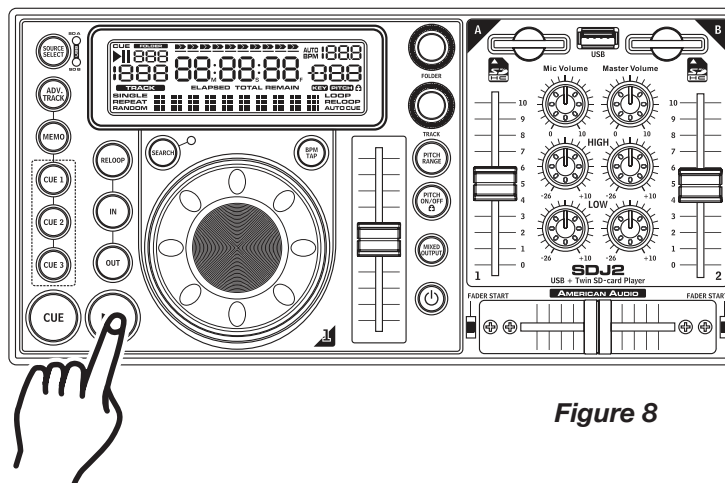
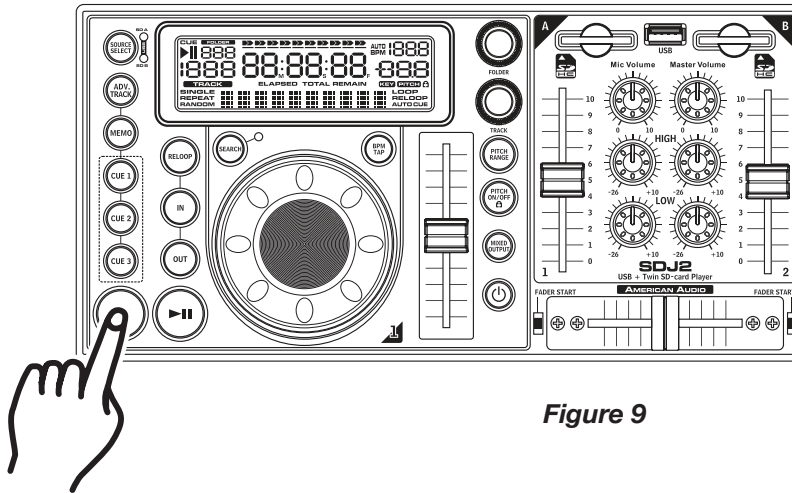
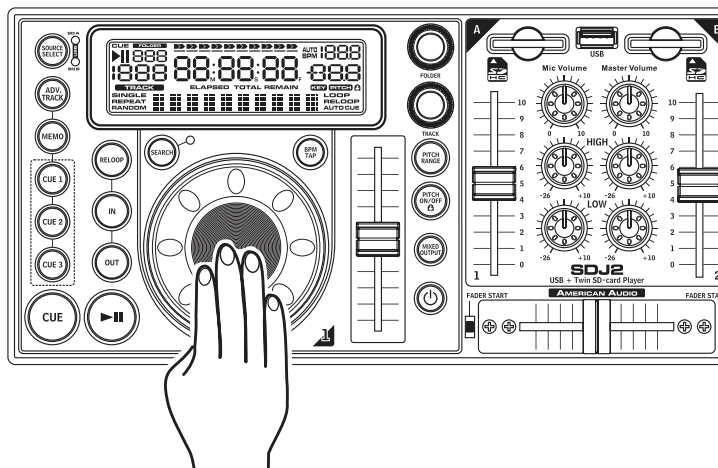

Figure 8
Figure 9
Figure 10
4. STARTING PLAYBACK - Figure 8
5. PAUSING - Figure 9
This feature allows you to scroll through a track frame by frame, allowing you to find and set a starting cue or loop point. To use the scroll function you must first be in Pause Mode (see section 5) or Cue Mode (see section 8). Once you are in Pause or Cue mode, make sure that the *SEARCH BUTTON (17)* is deactivated and then use the jog wheel to scroll through the track (Figure 10). When you use the search function the monitor (headphone level) function allows you to here what you are scrolling through. Once you reach your desired starting point you can set a cue (starting) point by pressing the *PLAY/PAUSE BUTTON (18)* as in Figure 8. Pressing the *CUE BUTTON (19)* as in Figure 9 will now return you to the point you just set.
STOPPING PLAYBACK - Figures 8 & 9